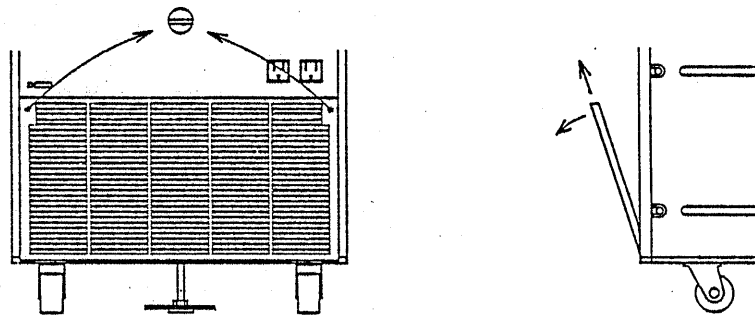
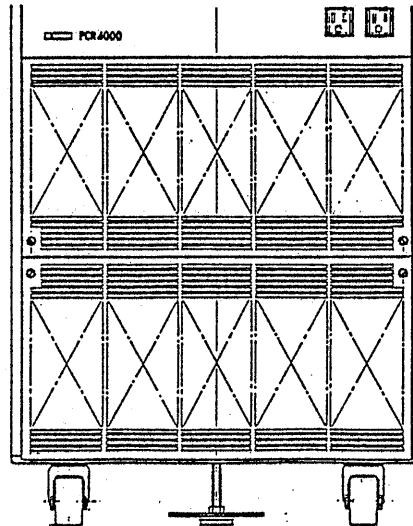

Figure 3-3-8
Figure 3-3-10
Clean the air filter of the air intake ④ of the converter at appropriate time intervals. Note that, if the air filter is clogged with dust, air flow will be impeded and the overheat protector may trip to cut off the output or other adverse effects on the converter may result. To remove the air filter, proceed as follows referring to Figures 3-3-8 and 3-3-9.
- (1) Be sure to turn off the input power source (with a power distribution panel, for example) before servicing the converter.
- (2) Loosen the two clamping screws of the filter by 180 degrees with a screwdriver or a coin, and the filter section will lean out to the front. Take out the air filter upward.
The illustrations in Figures 3-3-8 and 3-3-9 are for Model PCR2000 Converter. The same are applicable to other models also. Note, however, that Model PCR4000 Converter has two air filters as shown in Figure 3-3-10.